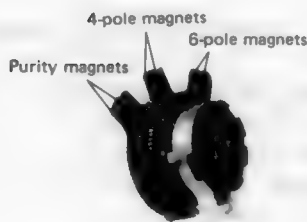

Figure 5
- (1) Tune receiver to a cross-hatch signal.
- (2) Set the CONTRAST control (VR682) to minimum. If necessary, adjust the BRIGHTNESS control (VR681).
- (3) Adjust the 4-pole magnets to converge red and blue vertical and horizontal lines at the center of the screen (Figure 5).
- (4) Adjust the 6-pole magnets to place the red and blue converged lines on the green line.
- (5) If necessary, repeat steps (3) and (4) above.
- (6) Fasten lock-ring tightly.